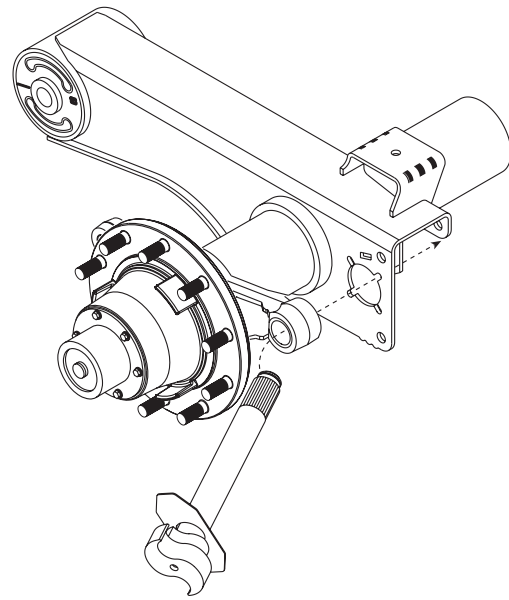

Figure 26: Installing the S-cam on Cam Tube System Models
3. **Slide** the underhead cam washer onto the S-cam until it contacts the S-cam head as shown in Figure 26.
4. **Angle and slide** this S-cam assembly through the spider and beam (Figure 26).